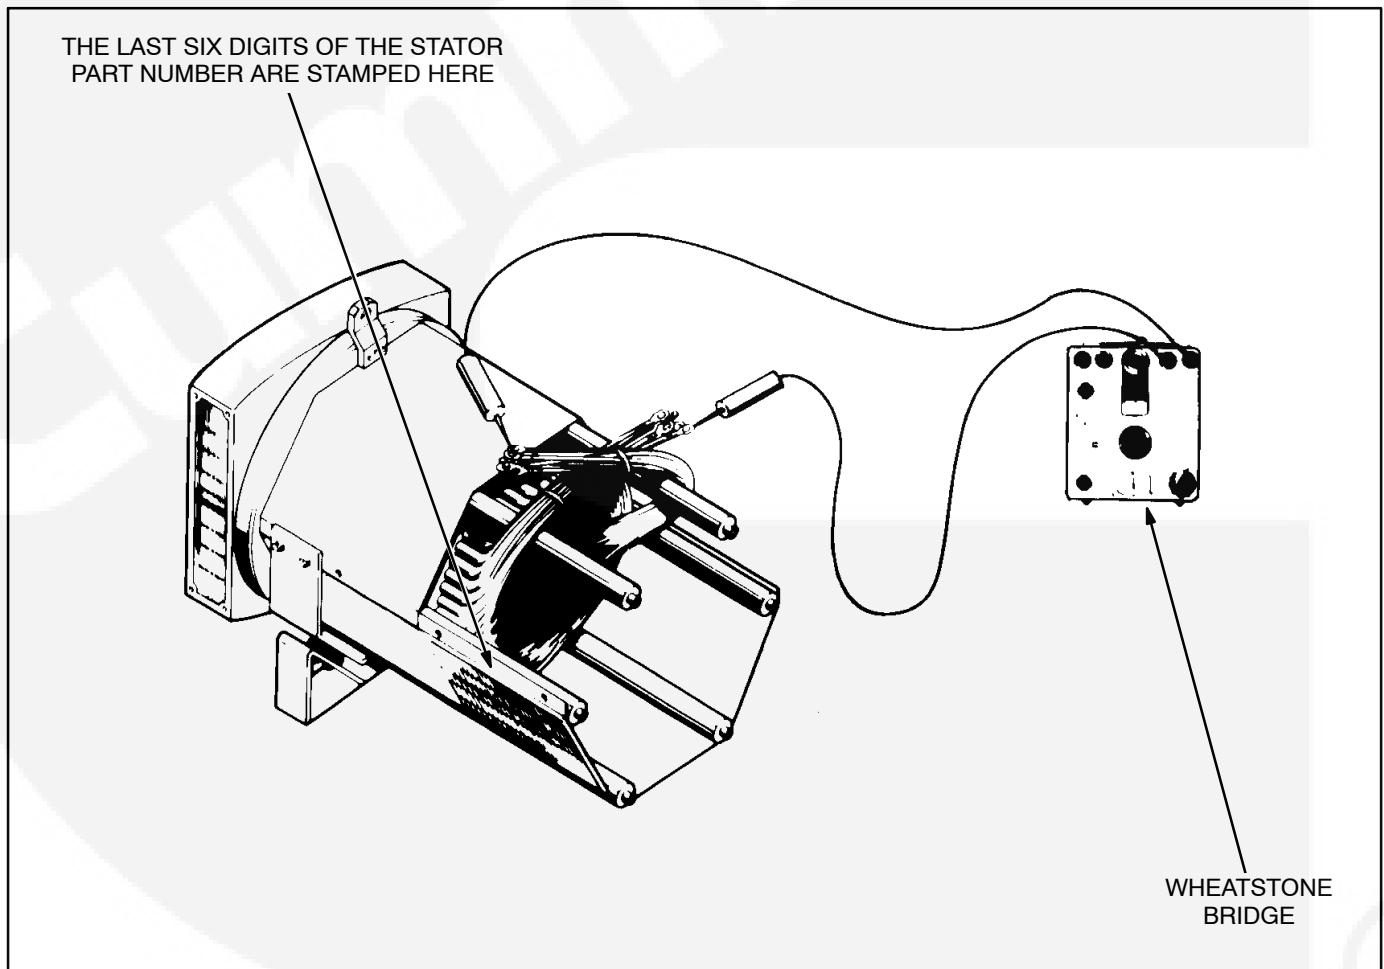

FIGURE 6-6. TESTING THE GENERATOR STATOR
*** - See Figure 6-6 for the location of the stator part number.